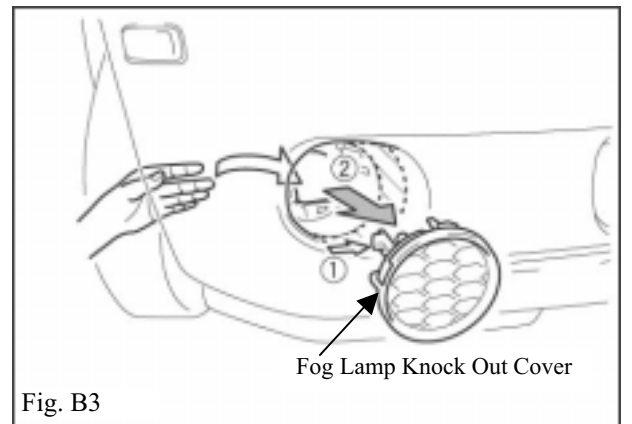

Fig. B3
4. Reaching from the back of the fender, push ([2]) the fog lamp knock out cover while pressing in its retaining claw located on the back of the cover ([1]) to remove. (Fig. B3)